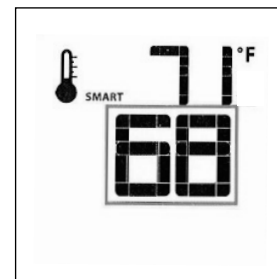

Figure 8.20. Smart Set Temp.
- To adjust the temperature, press the Up or Down Arrow Keys until the desired Set Temperature is displayed. Fig. 8.20.